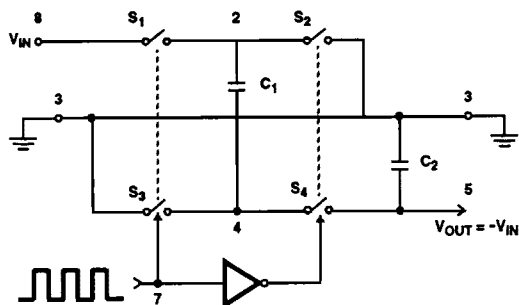
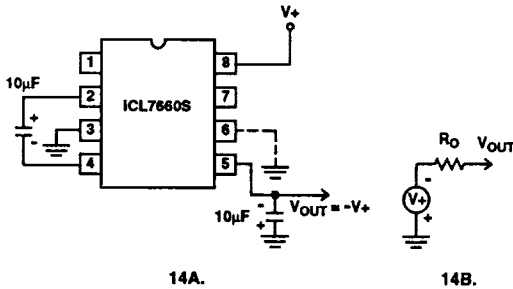
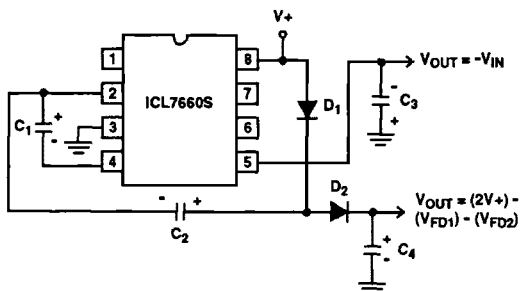

FIGURE 13. IDEALIZED NEGATIVE VOLTAGE CONVERTER
FIGURE 14. SIMPLE NEGATIVE CONVERTER AND ITS OUTPUT EQUIVALENT
FIGURE 21. COMBINED NEGATIVE VOLTAGE CONVERTER AND POSITIVE DOUBLER
The ICL7660S contains all the necessary circuitry to complete a negative voltage converter, with the exception of 2 external capacitors which may be inexpensive 10 $\mu$ F polarized electrolytic types. The mode of operation of the device may be best understood by considering Figure 13, which shows an idealized negative voltage converter. Capacitor C1 is charged to a voltage, V+, for the half cycle when switches S1 and S3 are closed. (Note: Switches S2 and S4 are open during this half cycle.) During the second half cycle of operation, switches S2 and S4 are closed, with S1 and S3 open, thereby shifting capacitor C1 to C2 such that the voltage on C2 is exactly V+, assuming ideal switches and no load on C2. The ICL7660S approaches this ideal situation more closely than existing non-mechanical circuits.
In the ICL7660S, the 4 switches of Figure 13 are MOS power switches; S1 is a P-Channel devices and S2, S3 and S4 are N-Channel devices. The main difficulty with this approach is that in integrating the switches, the substrates of S3 and S4 must always remain reverse biased with respect to their sources, but not so much as to degrade their "ON" resistances. In addition, at circuit start up, and under output short circuit conditions (VOUT = V+), the output voltage must be sensed and the substrate bias adjusted accordingly. Failure to accomplish this would result in high power losses and probable device latchup.
where V1 and V2 are the voltages on C1 during the pump and transfer cycles. If the impedances of C1 and C2 are relatively high at the pump frequency (refer to Figure 13) compared to the value of RL, there will be substantial difference in the voltages V1 and V2. Therefore it is not only desirable to make C2 as large as possible to eliminate output voltage ripple, but also to employ a correspondingly large value for C1 in order to achieve maximum efficiency of operation.
The majority of applications will undoubtedly utilize the ICL7660S for generation of negative supply voltages. Figure 14 shows typical connections to provide a negative supply where a positive supply of +1.5V to +12V is available. Keep in mind that pin 6 (LV) is tied to the supply negative (GND) for supply voltage below 3.5V.
The output characteristics of the circuit in Figure 14 can be approximated by an ideal voltage source in series with a resistance as shown in Figure 14B. The voltage source has a value of  $-(V_+)$ . The output impedance ( $R_O$ ) is a function of the ON resistance of the internal MOS switches (shown in Figure 13), the switching frequency, the value of  $C_1$  and  $C_2$ , and the ESR (equivalent series resistance) of  $C_1$  and  $C_2$ . A good first order approximation for  $R_O$  is:
Figure 21 combines the functions shown in Figure 14 and Figure 20 to provide negative voltage conversion and positive voltage doubling simultaneously. This approach would be, for example, suitable for generating  $+9\text{V}$  and  $-5\text{V}$  from an existing  $+5\text{V}$  supply. In this instance capacitors  $C_1$  and  $C_3$  perform the pump and reservoir functions respectively for the generation of the negative voltage, while capacitors  $C_2$  and  $C_4$  are pump and reservoir respectively for the doubled positive voltage. There is a penalty in this configuration which combines both functions, however, in that the source impedances of the generated supplies will be somewhat higher due to the finite impedance of the common charge pump driver at pin 2 of the device.